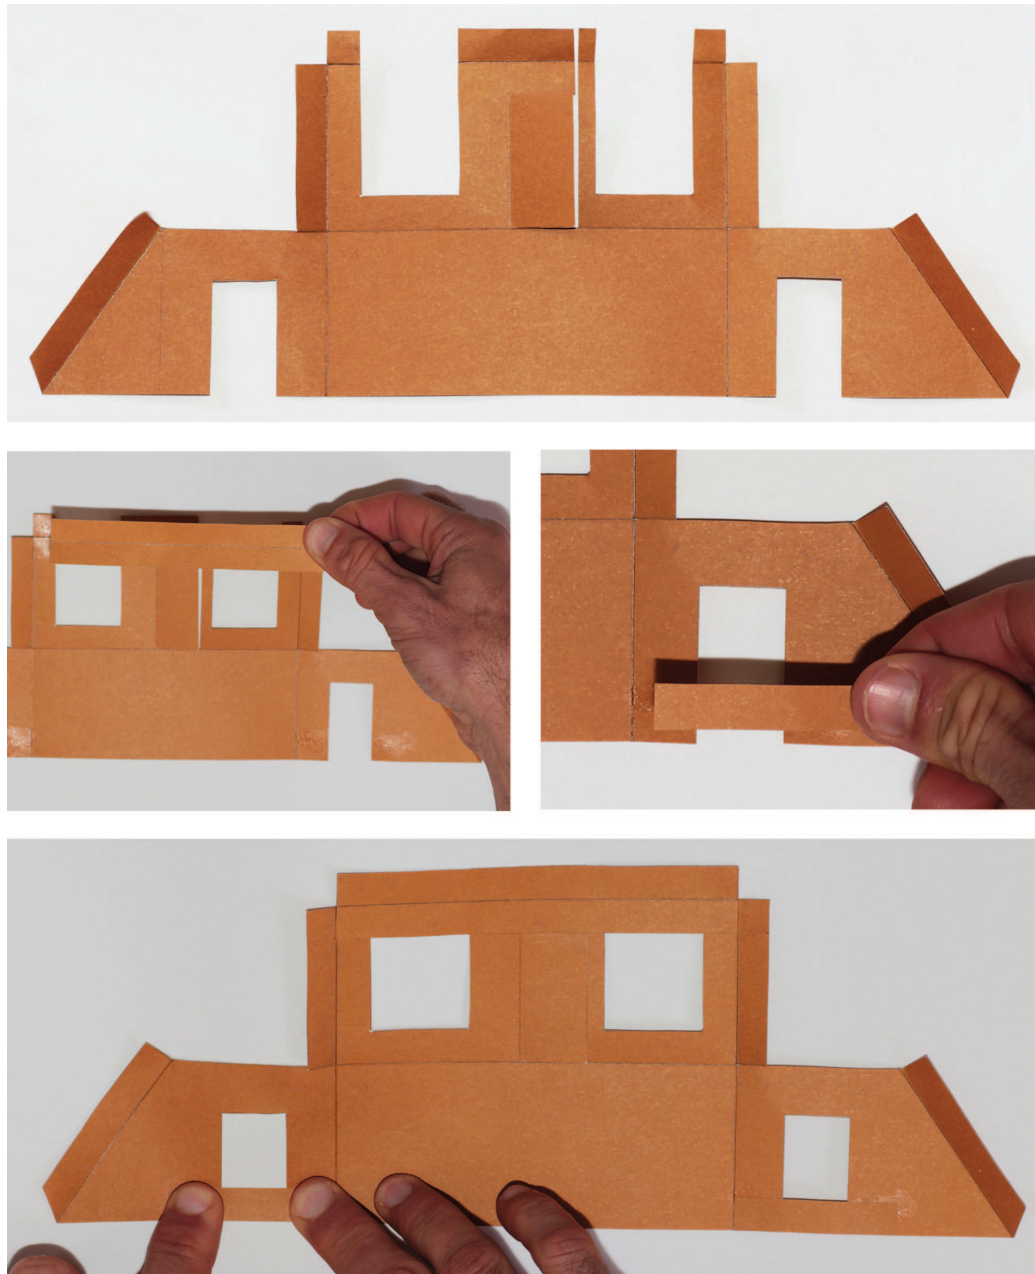

Figure 36
4. Fold the walls, and use Prestik to join them together. Then add the roof and the inside wall, also using Prestik. Have another look at Figure 36 if you are not sure how to do this.